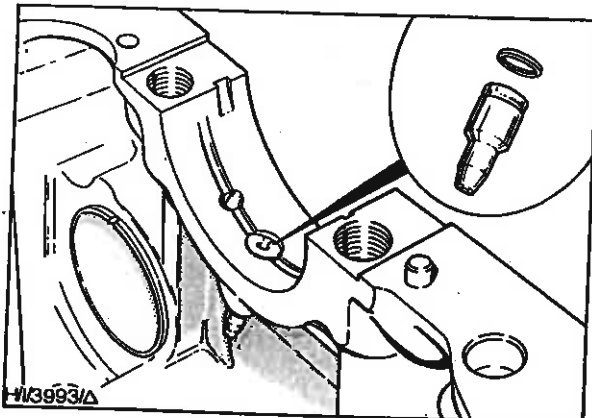

Fig. 46 - Piston Cooling Nozzle
9. On 2728T intercooled engines, if the piston cooling nozzles have been removed, fit new 'O' rings to the nozzles and fit the nozzles into the main bearing housings (Fig. 46). Lightly lubricate the 'O' rings to aid assembly. Ensure the nozzles do not protrude into the bearing housings.